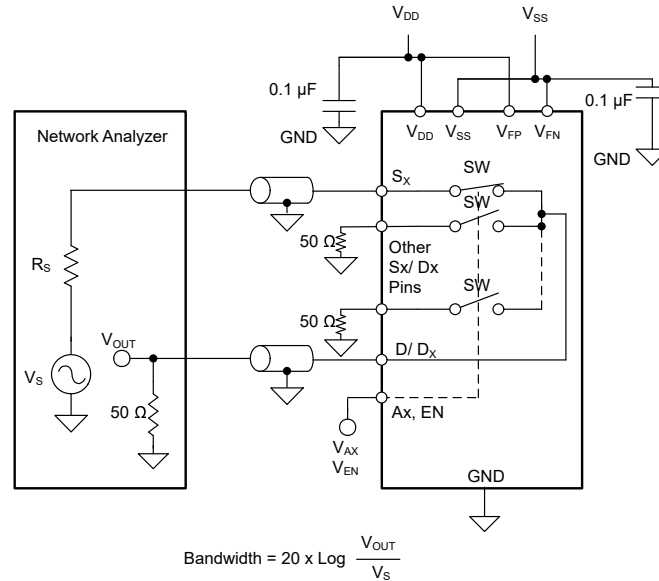

Figure 7-16. Bandwidth Measurement Setup
Bandwidth (BW) is defined as the range of frequencies that are attenuated by < 3 dB when the input is applied to the source pin (Sx) of an on-channel, and the output is measured at the drain pin (D or Dx) of the TMUX7348F-EP. Figure 7-16 shows the setup used to measure bandwidth of the switch.